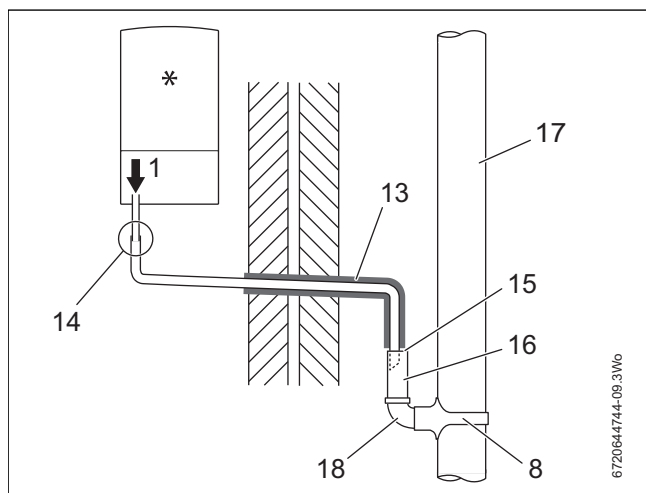

Fig. 13 Disposal into a rainwater down pipe
Continued - Key to condensate illustrations, figures 13, 14, 15 & 16
- Refer to figure 13 when a rain water down pipe is used to dispose of condensate.